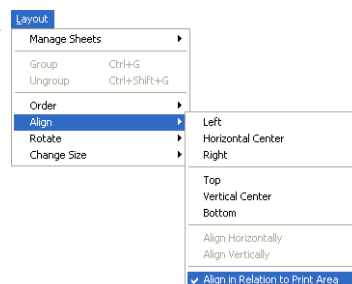
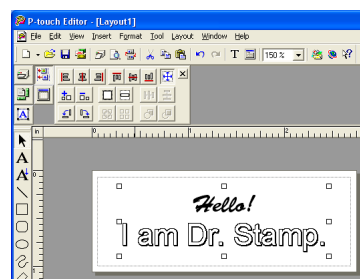

figure 12
figure 13
- ❶ Display the Text Properties.
- ❷ With the Select tool, click the block of text to be changed in the stamp layout. Handles appear around the text block.
- ❸ Click the Align sub-menu in the Layout menu (see figure 12).
- ❹ Select the Align in Relation to Print Area command.
- ❺ Click the Align Horizontal Center or Aligner Vertical Center button in the Layout Properties.
- The selected text is changed (see figure 13).